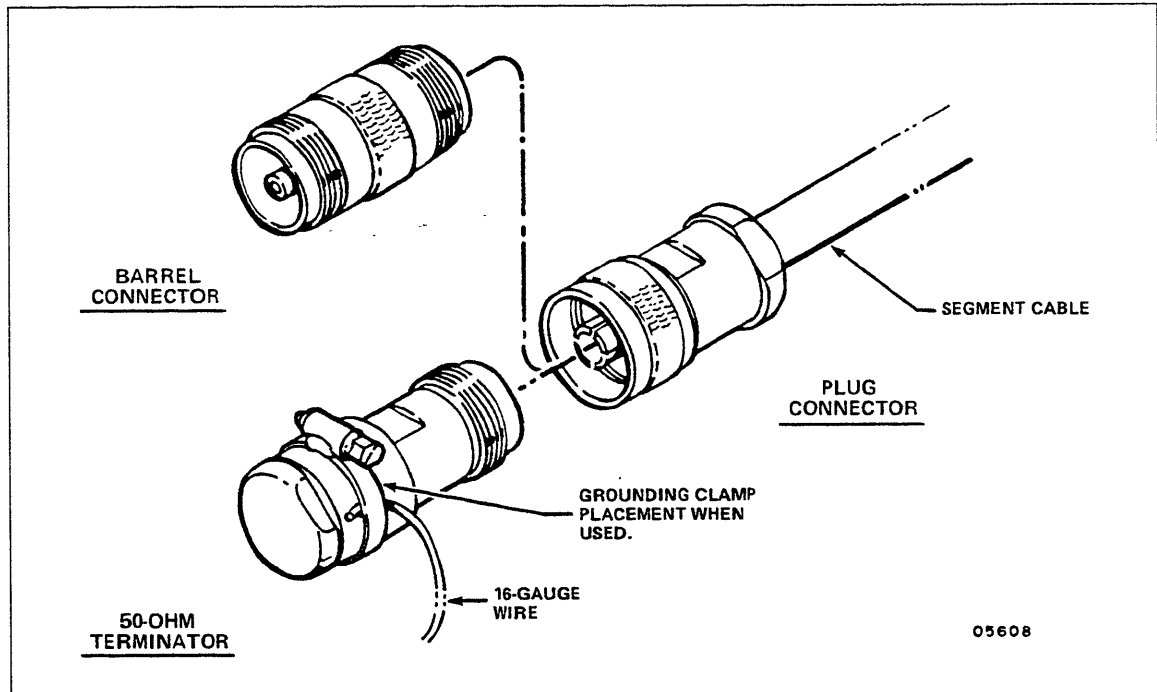

Figure 2-4. Grounding the Segment Cable
1. Using a clamp as shown in figure 2-4, connect one end of a 16-gauge copper wire to either a terminator or barrel connector on the segment cable. A terminator is recommended.